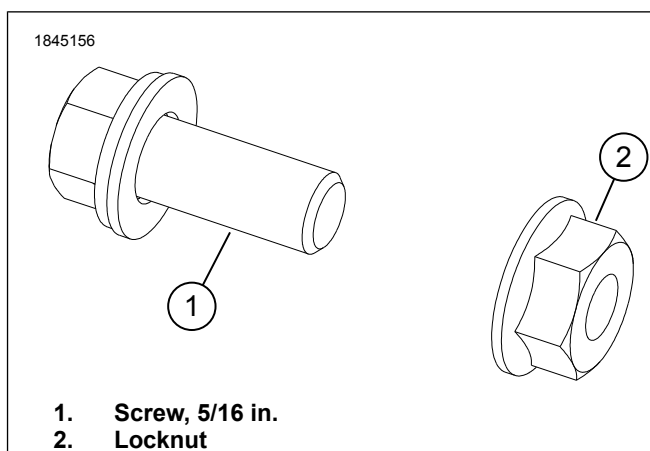

Figure 2. Kit (Part No. 91500114)
- a. **If no lock nut is present**, Figure 2, a separate purchase of kit (Part No. 91500114) is required.
6. Remove Original Equipment (OE) 1/4-20 inch screw.